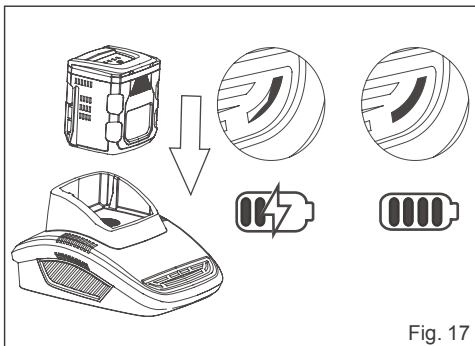

Fig. 17
2. To insert the battery pack into the charger, align the raised ribs of the battery pack with the grooves of the charger then push it in (Fig.17).